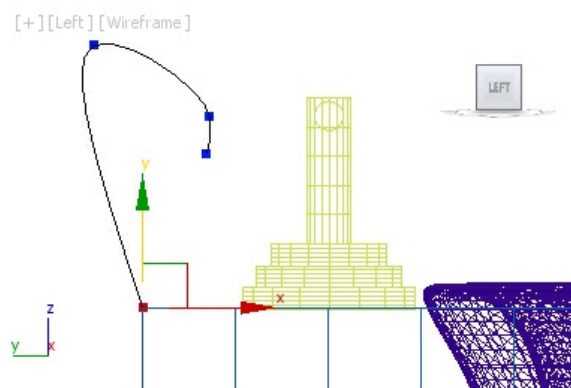

Figure 10-77 The line spline created in the Left viewport
5. As discussed above, create the base of the main tap using three cylinders of radius **8.0**, **10.0**, and **12.0**, and group and name it as *base*. Now, choose the **Line** tool and create a line spline in the Left viewport, as shown in Figure 10-77.